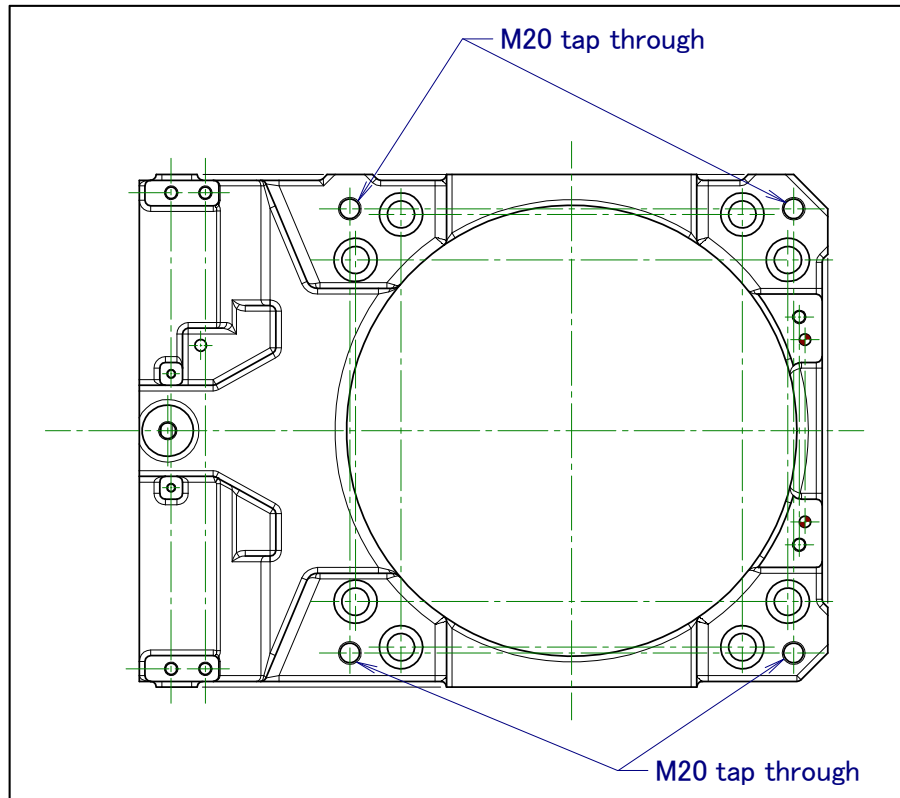

Fig. 1.1 (a) Position of the transport equipment mounting
- (1) Transportation using a crane (Fig. 1.1 (b) to (d))